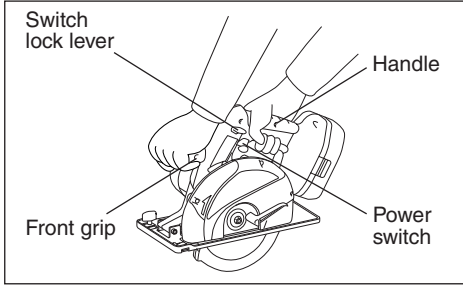

Fig.4
Hold the metal cutter with both hands. (See Fig.4) Do not attempt to remove cut material when blade is moving.
- Always hold the handle with one hand and the front grip with the other. (See Fig.4) Maintain a firm grip and depress the switch fully.